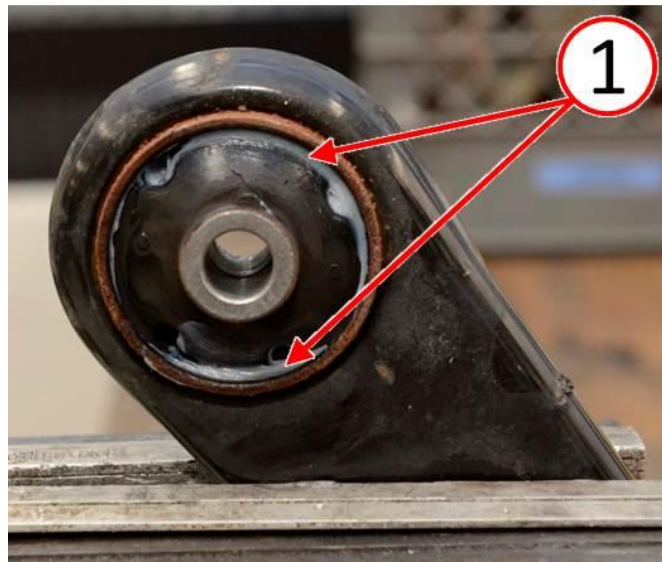

Fig. 5 Nye Lubricant Distribution
8. Inspect that Nye® Lubricant is evenly distributed within the bushing slots (Fig. 5).